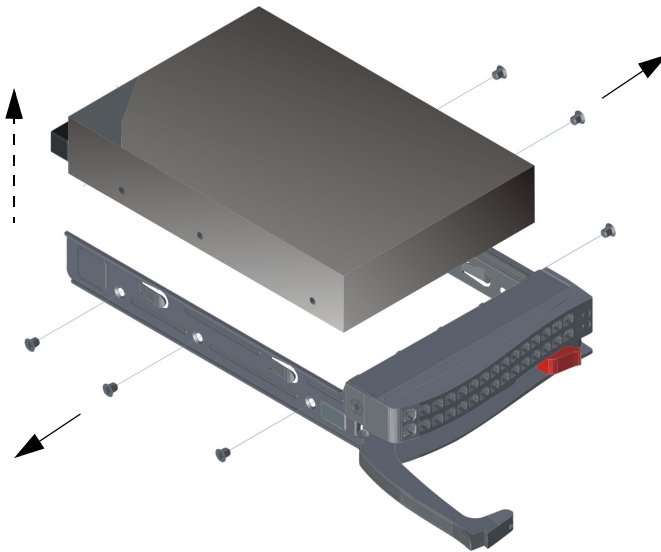

Figure 4 Removing the Failed Drive from the DSS200 Drive Tray
5. Use a Phillips screwdriver to remove the six screws securing the failed drive to the drive tray, then lift the drive out of the tray, as shown in Figure 4.
6. Slide the replacement drive into the tray with the printed circuit board facing down, as shown in Figure 4.